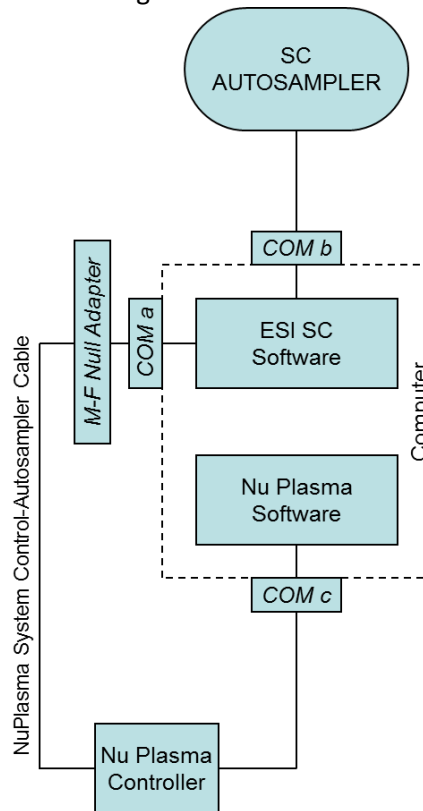

Figure 19: Connection options for Nu Plasma and ESI SC with SC autosampler.
- 2) Connect the USB cable from the computer to the SC Autosampler. Connect the Nu Plasma Autosampler cable from the System Controller to the computer using the Null modem converter supplied. The original cable from Nu Plasma must be used. See Figure 19.